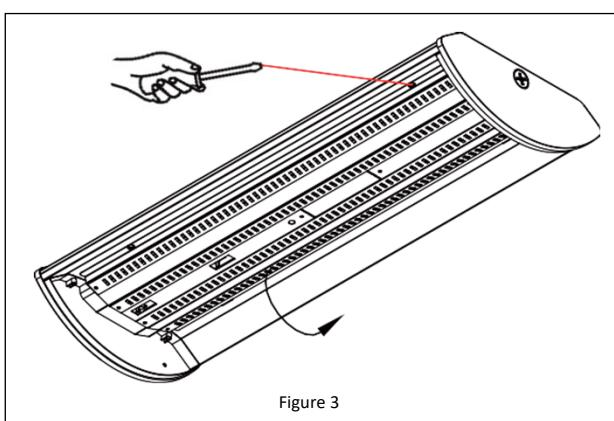

Figure 3
7. Remove the 2 screws holding the LED panel. Allow the panel to swing open. *See Figure 3.*